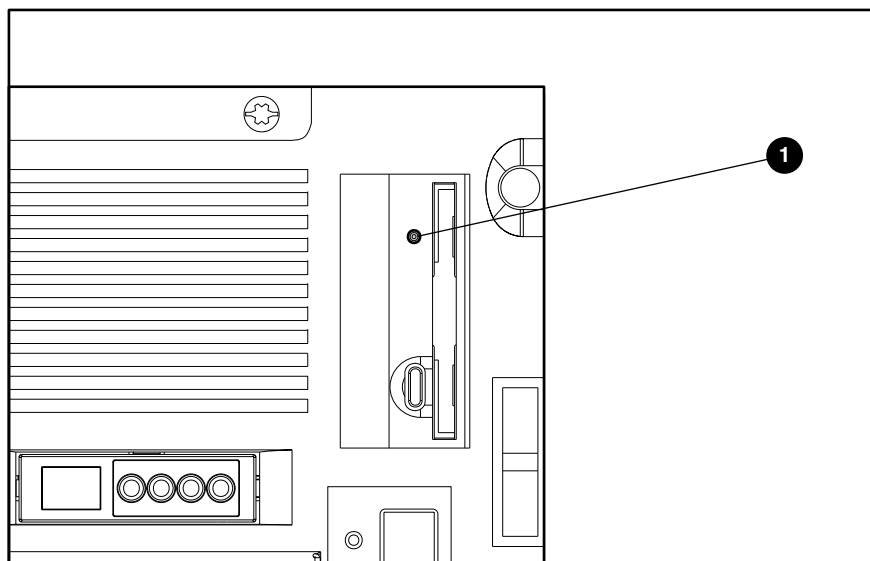

Figure 4-16. Diskette drive LED indicator
Figure 4-16 shows the location of the diskette drive LED indicator ❶. The LED indicator illuminates green when the diskette drive is in operation. Table 4-16 shows the diskette drive LED indicator on the ProLiant ML570 server.